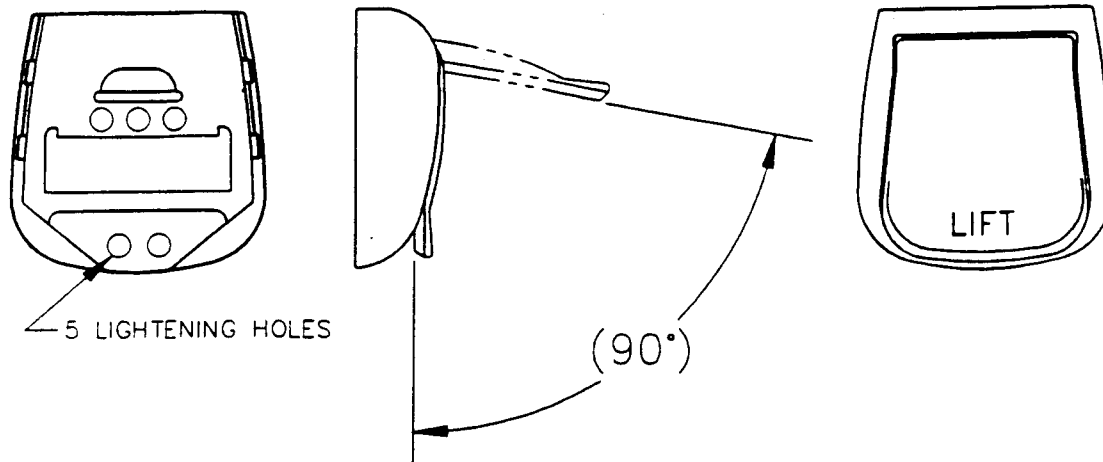

FIGURE 1
- 1) Inspect the crew restraint system or the lap belt assembly in which an 1108460 buckle is installed. The buckle can be easily identified by the lift lever characteristic, but more so by the composite plastic components which enclose the metal load carrying members of the buckle. The existing buckle design, which must be replaced, has a total of five lightening holes in the bottom frame surface. The retrofit buckle will only have two lightening holes (towards the back portion of the frame, opposite from where the plug-in connector inserts into the buckle). The retrofit buckle will also have an identification marking indent stamped on the bottom surface, which represents the frame detail part number 1108556. See Figure 1 and 2 for reference.